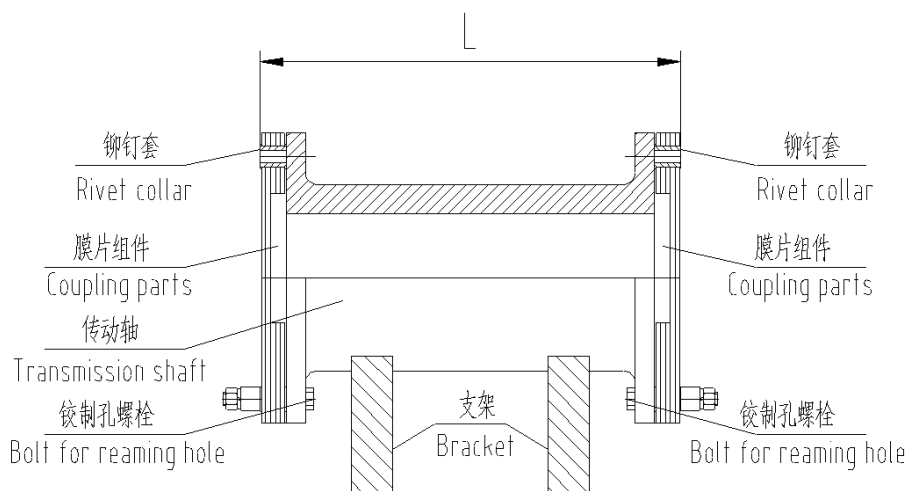

图 6 Fig.6
- (2) 将传动轴水平地放在支架上（如图 6 所示），测量 L 的实际长度。
Horizontally put the driven shaft on the support (as shown in Fig.6) and measure the actual length.